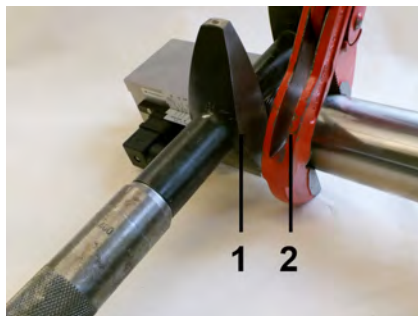

Fig. 12: Screw in the device
3. ➤ Continue to screw in the pipe line, (Fig. 12/2) while holding the device body in place (Fig. 12/1) until the connection is tight.